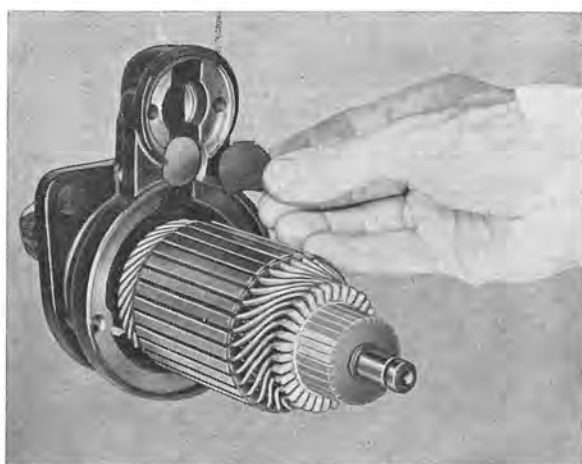

Fig. 3-36. Removing sealing washers
9. Remove the rubber washer and metal washer, see Fig. 3-36.